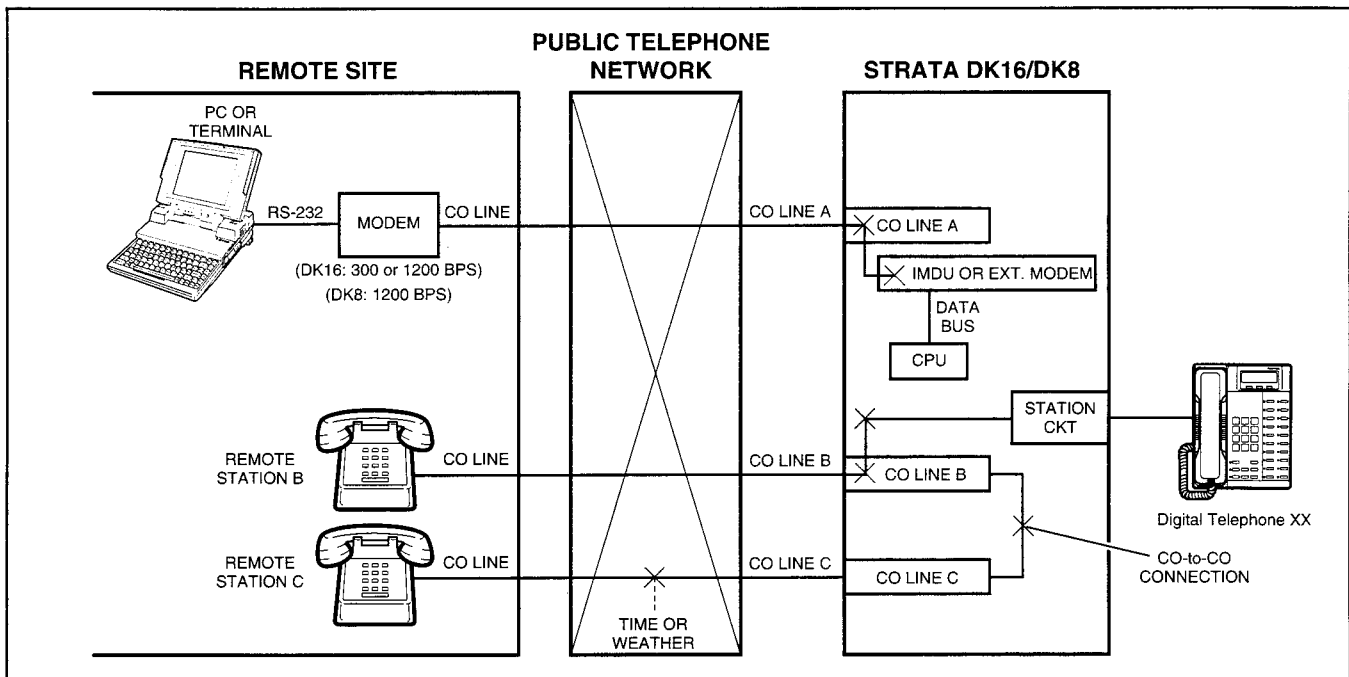

FIGURE 8
10.02 This testing function is accomplished by accessing stations from the remote terminal, and activating various buttons on digital and electronic telephones to make telephone calls, set function buttons, change the system time and date, etc. (see Figure 8 and Tables RM-BS ~ BV).
10.11 To test CO line transmission, two or three CO lines must be available at the remote site (see Figure 8 and Table RM-BU).